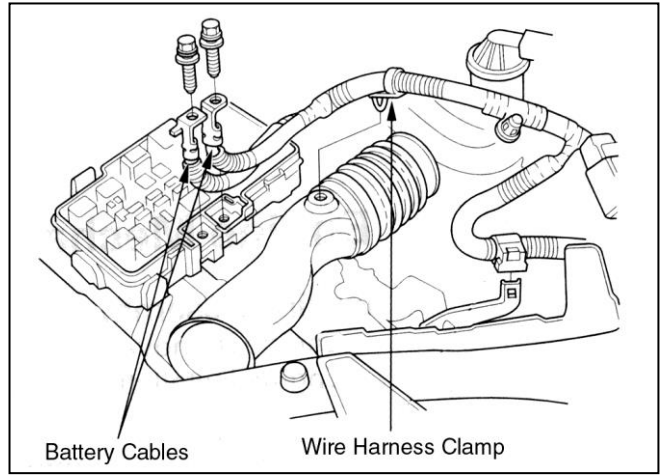

Fig. 2
- b. Remove the battery cables from the fuse box, and remove the wire harness clamp from the intake air duct. **(Fig. 2)**